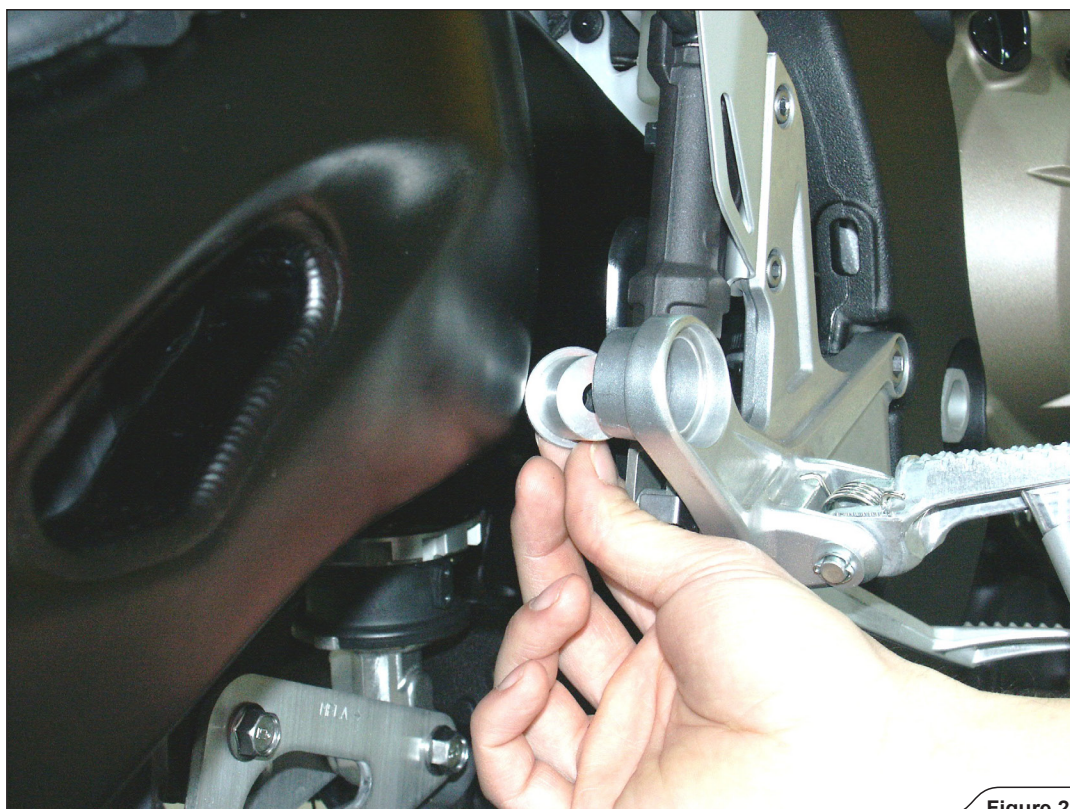

Figure 22
10. Insert the aluminium bush to the muffler bracket (Figure 22). Correctly position the carbon-fiber clamp and slide it onto the muffler - bear in mind the **left offset** of the carbon-fiber clamp viewed from the rear (Figure 23).